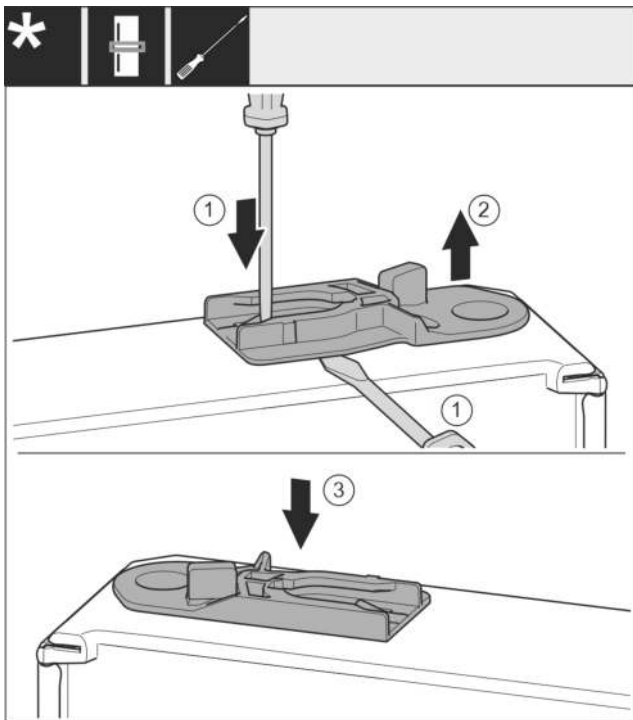

Fig. 38
- ▶ Pull out the guide bush: Press the lug with a slotted screwdriver and, at the same time, insert the slotted screwdriver under the guide bush. *Fig. 38 (1, 2)*
- ▶ Slide the guide bush included in the scope of supply to the other side of the housing. *Fig. 38 (3)*